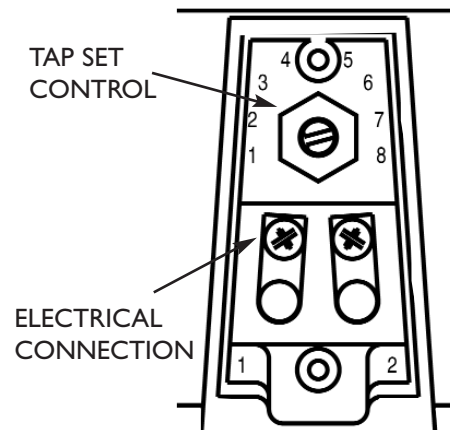

Figure 2
STEP 3 - Remove the plastic cover to make the electrical connection and set the tap set control (see Figure 2). **Note:** Use 22 AWG shielded, twisted pair on all wire runs. Com Code: 401882956. Pec Code: 2734-SPK. Connect speaker wire shield to the ground (GND) terminal of the amplifier's output. Carry the ground through all speaker cables by tying the shields of the speaker cables together in a "daisy chain" fashion. **Do not connect the shield to the speaker itself.** The shield is only connected at the amplifier end and simply floats.
Tap anchor until it is flush with the wall (see Figure 2).